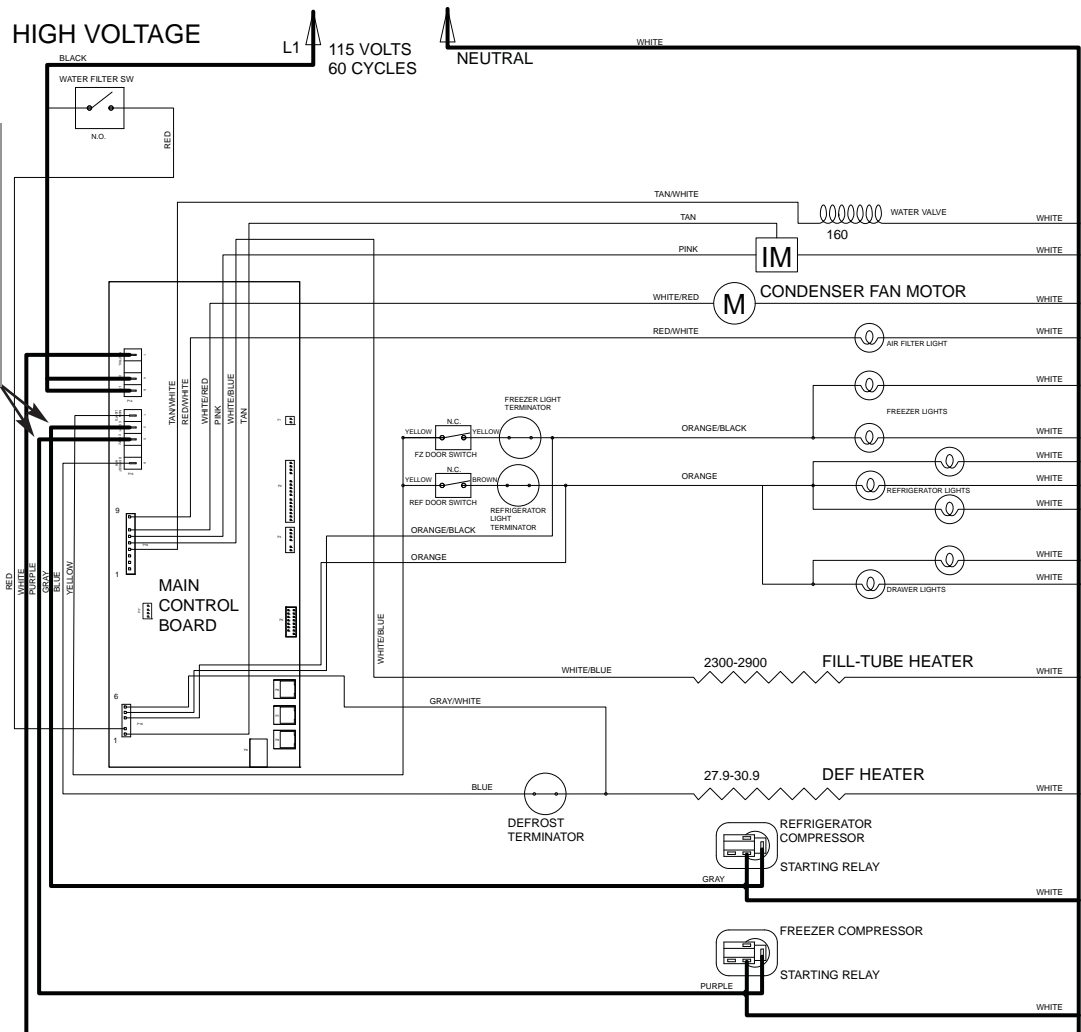

Figure 3-50. Signal Trace Schematic: Monitoring Compressor Run Times
The microprocessor observes the changing state of the compressor relays on the control board to determine the length of compressor run time (See Figure 3-50). Other than during initial pull down, if a compressor runs 100% (Freezer = 6 hours / Refrigerator = 4 hours), five consecutive times, a fault code is logged, defrost is initiated, and the service icon will flash. If approximately twenty-four (24) hours worth of 100% run periods occur, and the compartment temperature does not fall to at least the average of the set point and low off-set temperature (and the door is not opened during the last run period), then the service icon will flash and the alarm will chime (See Figure 3-51).